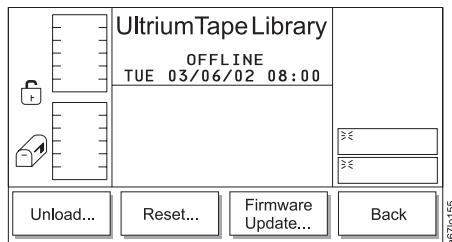

Figure 4-98. Drives Submenu
2. Press the button below the **Drives** softkey. The Drives Submenu displays (see Figure 4-98).